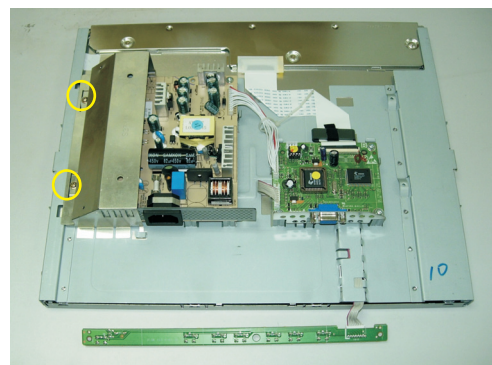

Fig.11
- Remove the two screws as shown in Fig.11